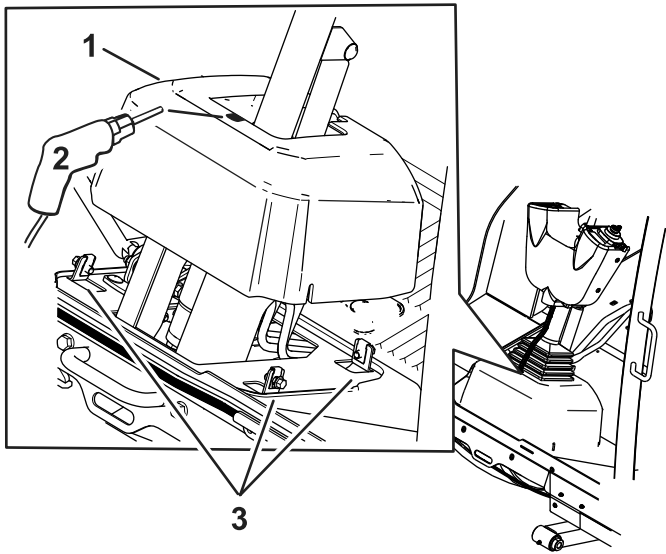

Figure 9
- 8. Loosen the bolts around the steering-column base (Figure 9).
- Raise the base up and drill a 22 mm (7/8 inch) hole as shown in Figure 9.